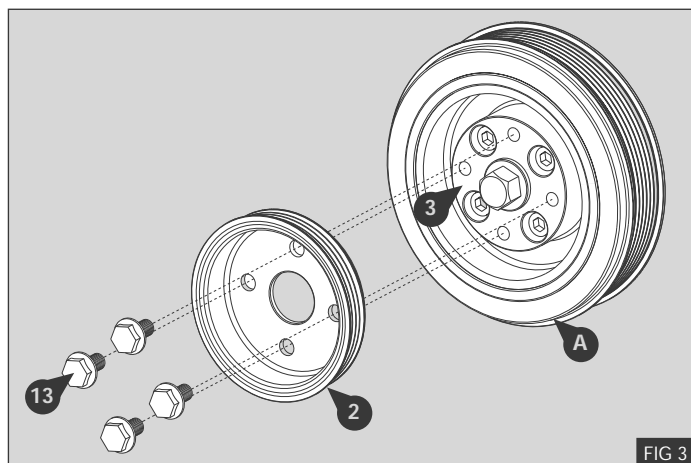

FIG 3
5. Fit the supplied drive pulley 2 onto the drive pulley spacer Ⓓ using bolts 13 - Fig 3.
6. Torque bolts 13 to 30Nm / 22Lb ft - Fig 3